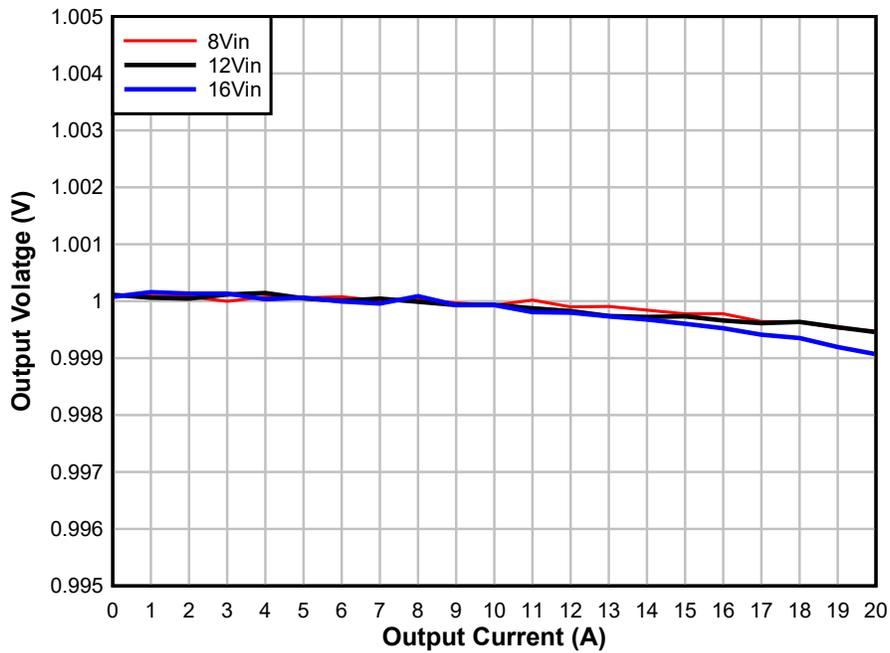

Figure 4-2. VOUT Load Regulation
5. Vary the load from 0 to $20A_{DC}$. V_{OUT} must remain in regulation as defined in Figure 4-2.